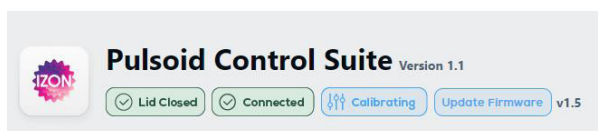

Figure 4. Instrument status reporting in the PCS.
9. Check that the instrument status changes from 'Not Connected' to 'Connected' in the top left corner of the PCS (Figure 4). Once it has connected, the Automatic Pressure System (APS) will show as 'Calibrating'. Once the APS status changes back to 'Active', the Pulsoid is ready to use.